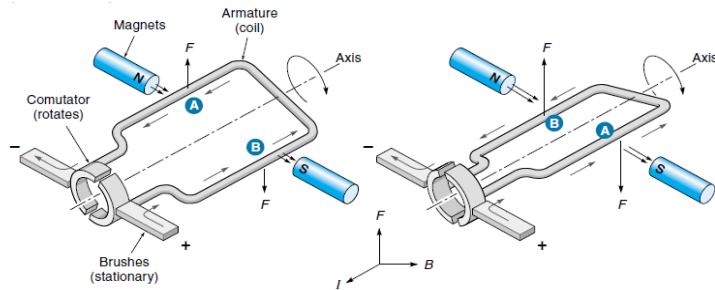

Figure 3.3 A simple DC motor action (conventional flow).
- This can be done by forming the wire in a loop and placing it in the magnetic field (Figure 3.3).
- To understand how the motor works, look at Figure 3.3(a). Notice that wire segments A and B of the coil are in the same magnetic field, but the current in wire segment A is coming out of the page, whereas the current in wire segment B is going in.
- Figure 3.3(b) shows the situation after the coil has rotated about 90°. The current has now reversed direction in the coil because the commutator contacts have rotated and are now making contact with the opposite brush. Now wire segment A of the coil will be forced down and wire segment B up, which causes the armature to continue rotating clockwise.
- For example, if the armature coil of Figure 3.3 were rotated in the magnetic field by some external force, a voltage [called the *electromotive force* (EMF)] would appear on the commutator segments.